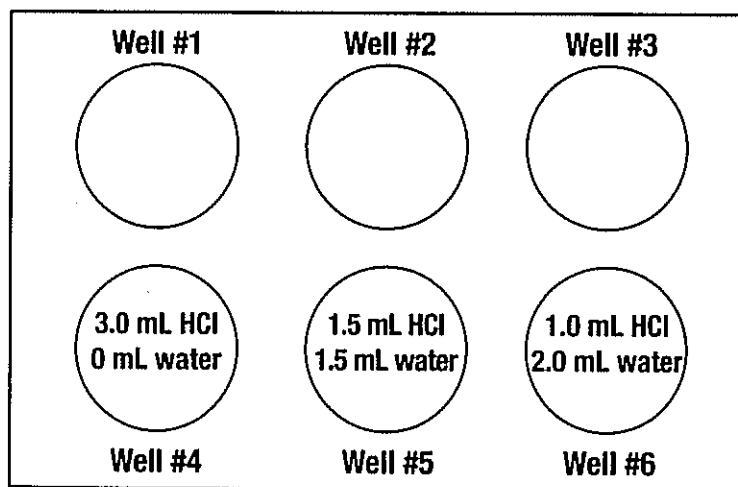

Figure 2.
13. Empty the syringe into the well #6 of the six-well reaction plate. See Figure 2 below.
14. Repeat steps 11–13 to fill wells #5 and #6. Use the amounts of water and HCl solution shown below in Figure 2. Fill the wells in reverse order (well #5 next, then well #4).